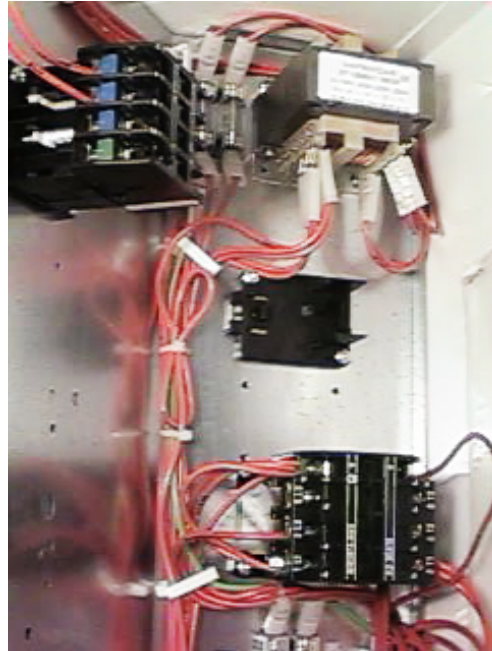

fig. 3
5. Re-install the motor terminal-box cover and the dryer back panels. Unlock and prop open the dryer's front control panel. Using the two screws provided, mount the overload protector's base in the control panel as shown in figure 3. Orient the base so that the protruding "I" section is on the right.